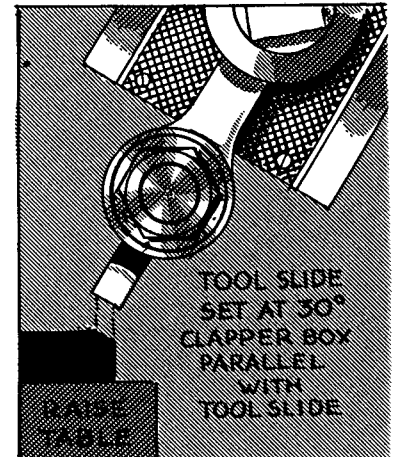

FIG. 388
13. Move the table until the work is under the tool (Fig. 388).